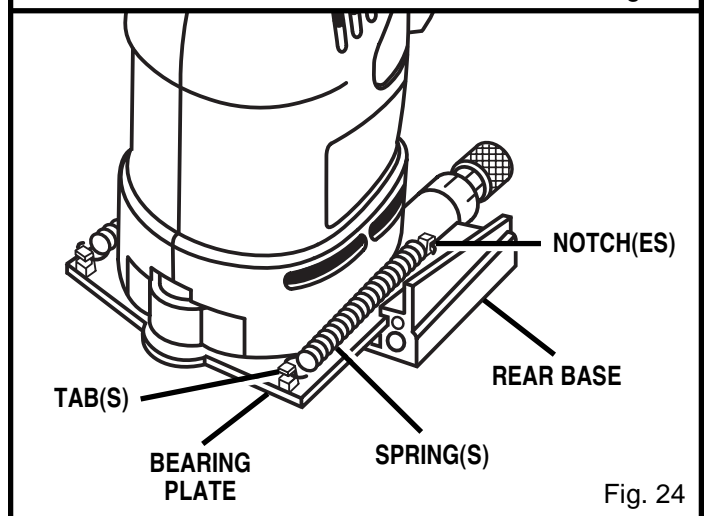

Fig. 24
- Using a pair of needle nose pliers, stretch and release springs from tabs on bearing plate. See Figure 24.
- Replace rear base. Position adjustment rod in its proper place as shown in figure 24.